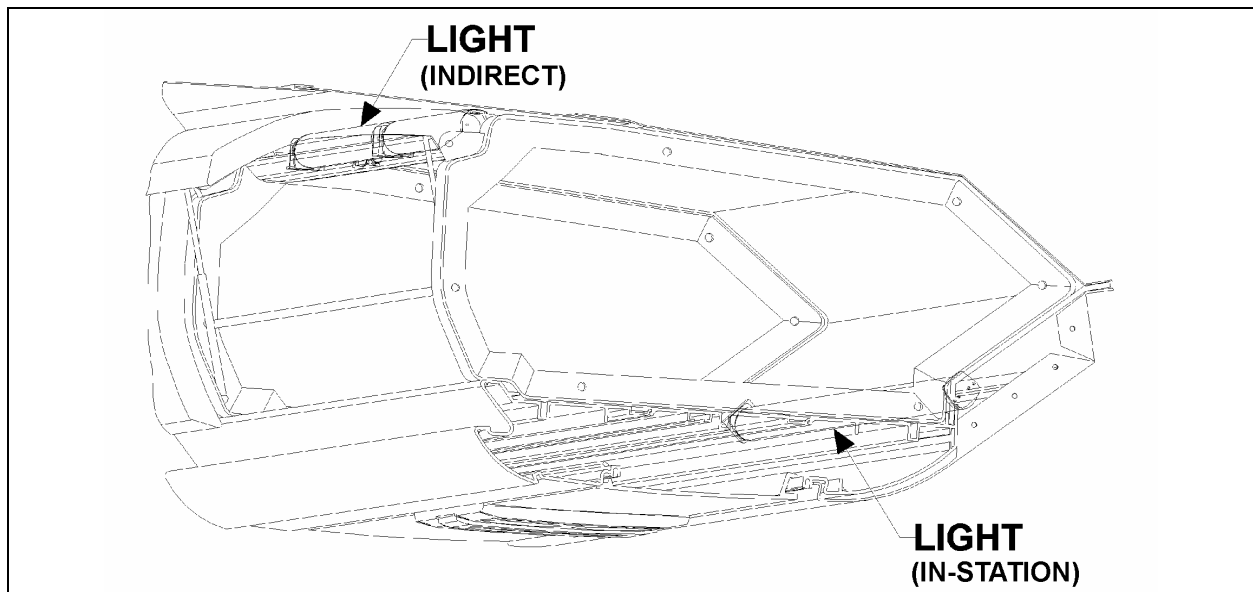

FIGURE 39: PARCEL RACK LIGHTING
4. Lift the hinged cover and replace the two retaining screws (Fig. 39).